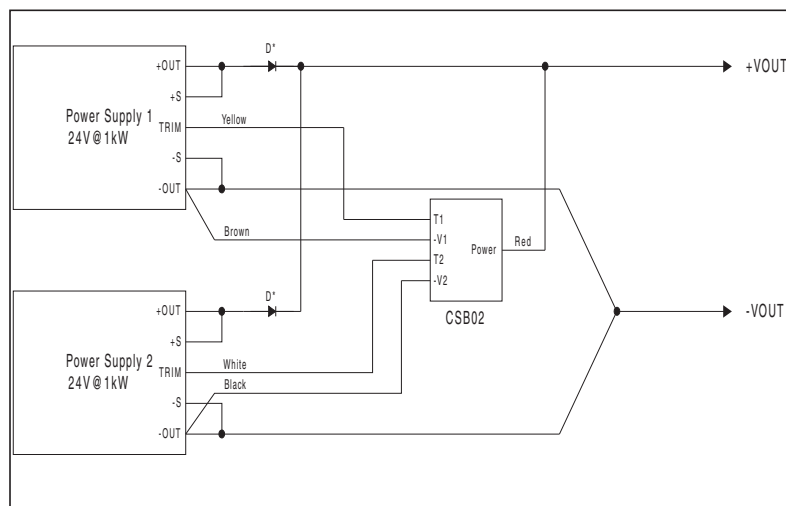

Figure 1. CSB Interconnect Example
- Out conductors must be of equal length and wire gauge. Separate -Out conductors must be used from each supply to the load, or the use of a "Y" connection to a common point must be used as shown in figure 1. Each leg of the "Y" must have a minimum of a few millivolts of drop in order for proper operation. 50mV to 100mV of drop will provide from 5% to 1% accuracy.
- Terminate Sense Leads either locally or remotely as shown in figure 1.